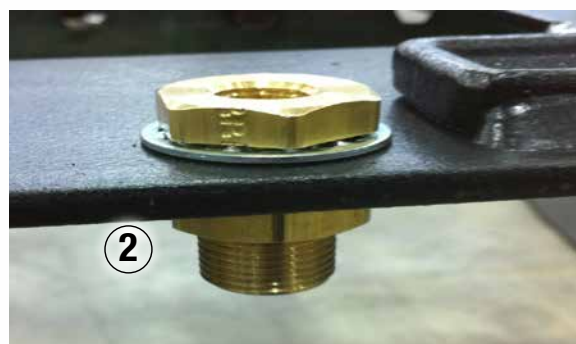

Figure 2: Bulkhead fitting in slot in slide rail
2. Screw the bulkhead fitting (Item 2) into appropriate slot in the slide rail (Figure 2). The star washer should be placed above the slide rail (between head of fitting and slide rail) as shown.